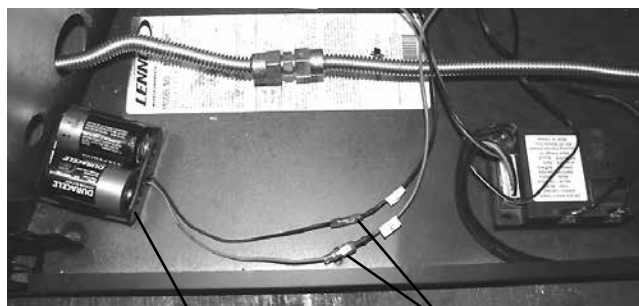

Figure 15
- Disconnect and remove the battery pack (**Figures 15 and 16**).